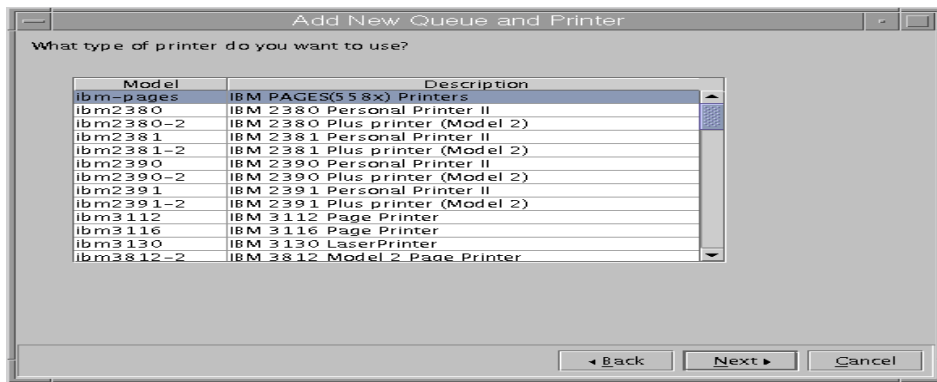
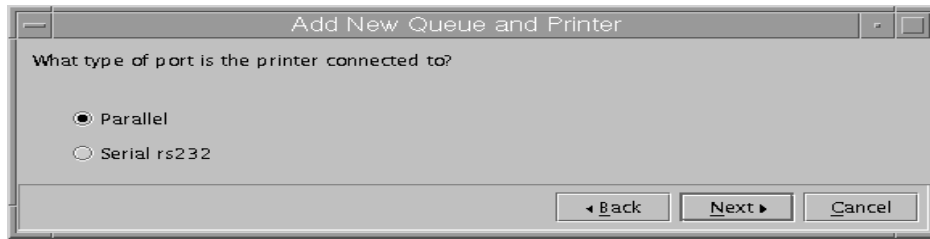

Figure 28. Selecting a model of the printer
Figure 30. Selecting a type of port
7. The next step is to select the printer model. In this example, shown in Figure 28 on page 211, we need to select the **IBM 4312** model. Click **Next**. If the device for this printer has been installed already, you will get the panel shown in Figure 30 on page 212; skip to Step 9. Otherwise, continue on to the next step.
- You can choose type of port to connect to the printer. In this example, select **Parallel** and click **Next**, as shown in Figure 30 on page 212.